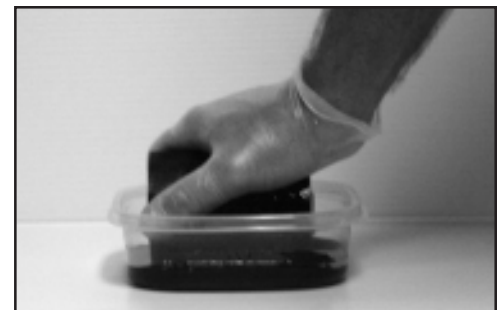

FIGURE 28
- 2 - Carefully place the roll into the container as shown in fig 28. Hold the roller and firmly press down on the foam side of the ink roll and then release the pressure. Rotate the roll and repeat this process several times pressing on different areas. This will force the air out of the roll and the voids will be filled with ink.**